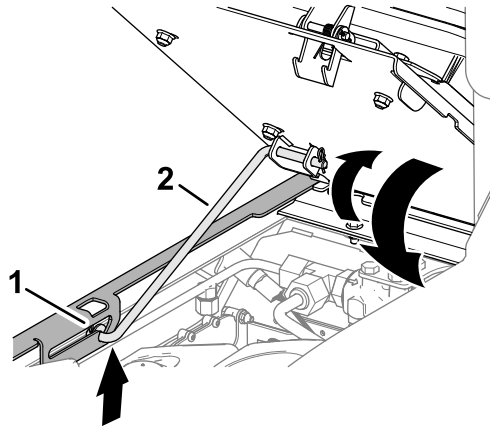

Figure 53
1. Rotate the seat slightly, and lift the prop rod out of the dent of the seat support slot (Figure 53).